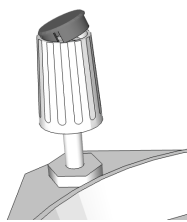

Figure 1. Step 2
2. Take the caps off of the push-rotary knobs (see figure 1).